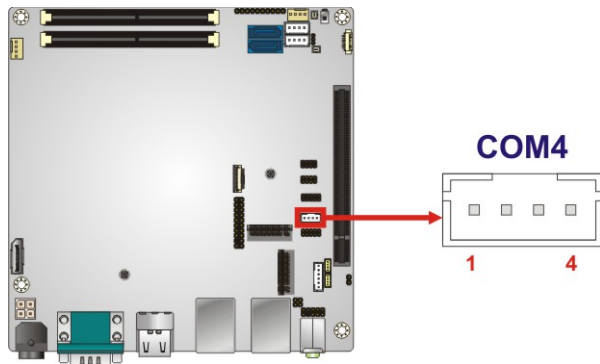

Figure 3-22: RS-422/485 Connector Location
- CN Location:** See **Figure 3-22**